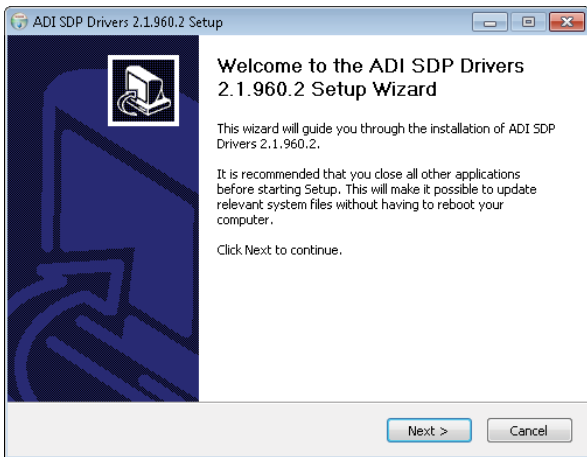

Figure 2. SDP Driver Installation
2. When the SDP drivers setup wizard appears, click **Next** (see Figure 2).